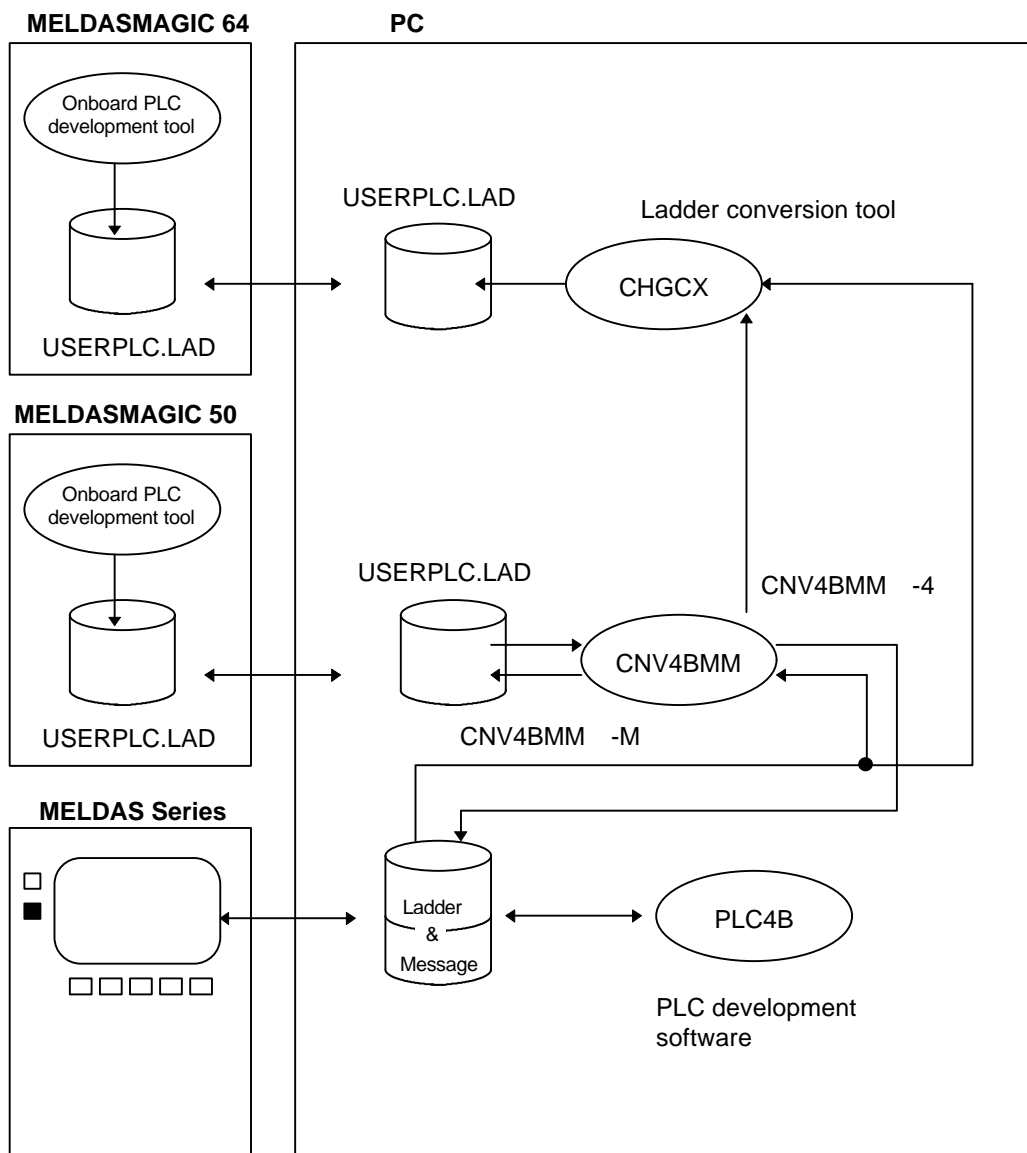

Fig. 5-1 Outline of cnv4bmm
**Caution** Because the MELDASMAGIC64 ladder commands differ from the MELDASMAGIC50, MELDAS50, MELDAS500 Series, it is necessary to convert the ladder commands with the Conversion tool "CHGCX" as shown in Fig. 5-1 when the ladder program is read into the MELDASMAGIC64 from the MELDASMAGIC50, MELDAS50, or MELDAS500 Series. Refer to the Ladder Development Tool instruction manual for information on "CHGCX".
- (1) Start the MS-DOS prompt.
**Caution** Because the MELDASMAGIC64 ladder commands differ from the MELDASMAGIC50, MELDAS50, MELDAS500 Series, it is possible to read the ladder commands from the MELDASMAGIC50, MELDAS50, or MELDAS500 Series into the MELDASMAGIC64, as shown in Fig. 5-1. Note that the reverse is unsupported.
- (2) Type the following command, and then press the [ENTER] key.